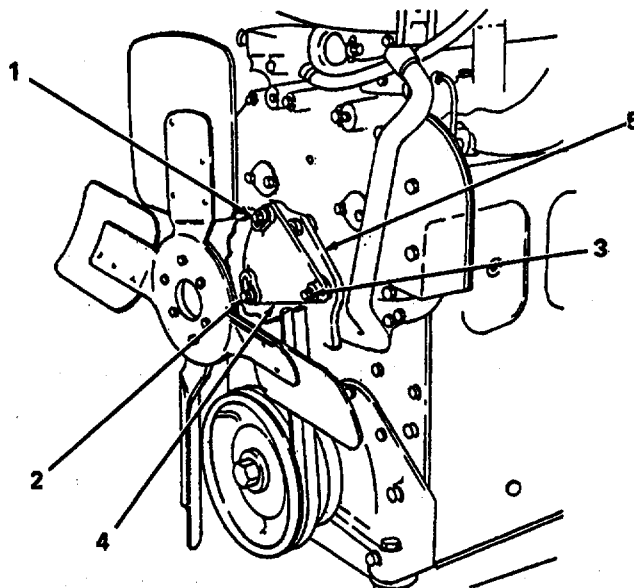

Figure 3-7. Engine Fan Belt Adjustment.
(1) Loosen fan pulley.
Loosen adjusting bolts (1, figure 3-7) and (2) and pivot bolt (3) securing pulley bracket (4) to bracket support (5).
(2) Adjust belt tension.